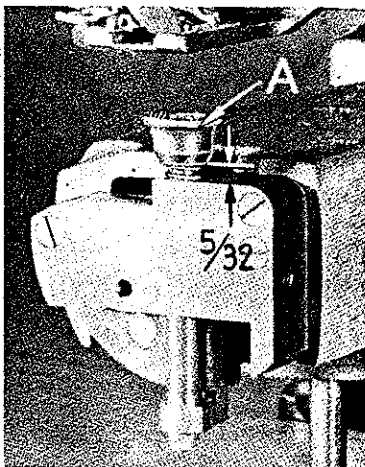
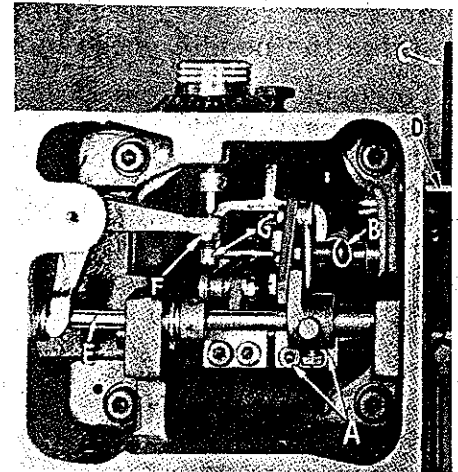
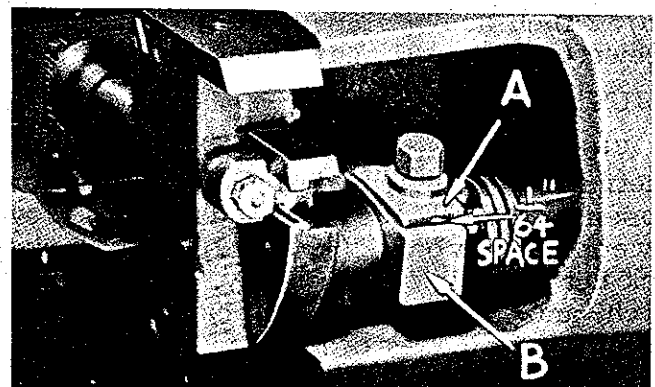
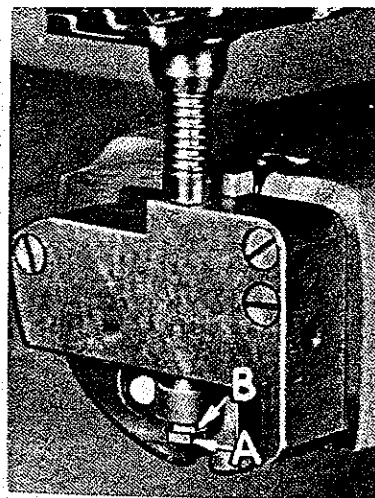

Fig. 9
Fig. 8
Fig. 10
Fig. 11
Tip machine on its side and loosen clamp screws (A, Fig. 8). Disengage spring (B) from crank roll. Depress lever (C) until it rests against its stop pin (D). Turn plunger
shaft (E) clockwise until bottom of work clamp (A, Fig. 9) is $\frac{5}{32}$ inch above plunger bearing block. Tighten clamp screws (A, Fig. 8) and re-engage spring (B).
With machine in stop position, tilt machine on side, pull penetration dial out, and turn clockwise as far as it will go. Loosen locknut (F, Fig. 8), and adjust screw (G) until space between plunger block (A, Fig. 10) and crank (B) is $\frac{1}{64}$ inch. Lock nut (F, Fig. 8) securely. Tip machine back, engage clutch, and turn pulley in operating direction until point of looper is over center of needle. Loosen locknut (A, Fig. 11) and adjust plunger up or down by means of nut (B) until point of looper just contacts needle. Lock nut (A) securely.